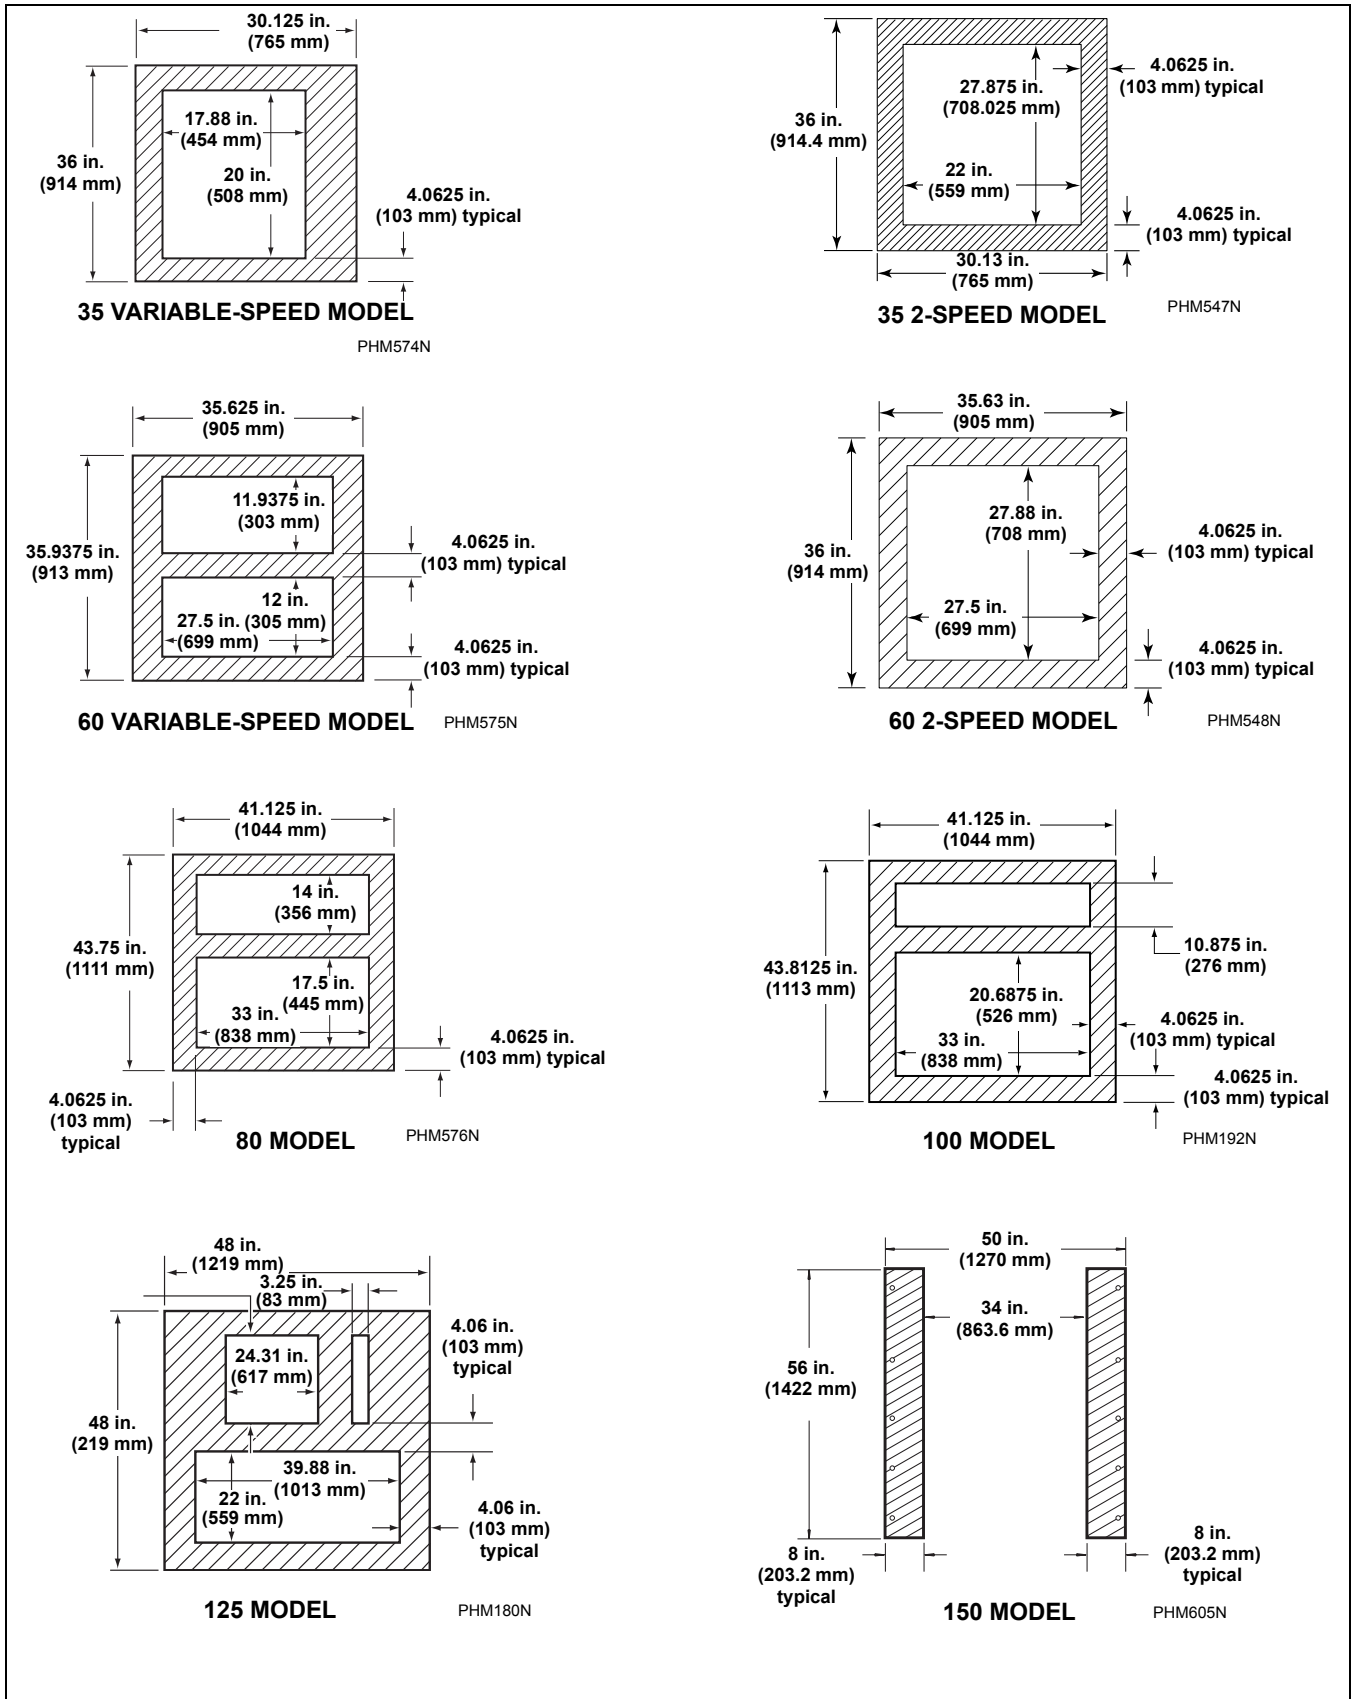

Figure 13
5. Fill the space between the washer-extractor base and the floor with a good quality **non-shrinking machinery precision grout** to ensure a stable installation. Grout completely under all frame members. (Remove front panel and back panel to gain access to **all** frame members.) Refer to *Figure 13*. Force grout under machine base until all voids are filled.